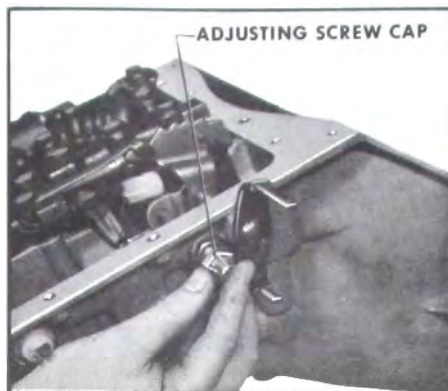

Figure 1-18—Installing Adjusting Screw Cap
c. Replace adjusting screw cap. Refer to Figure 1-18.